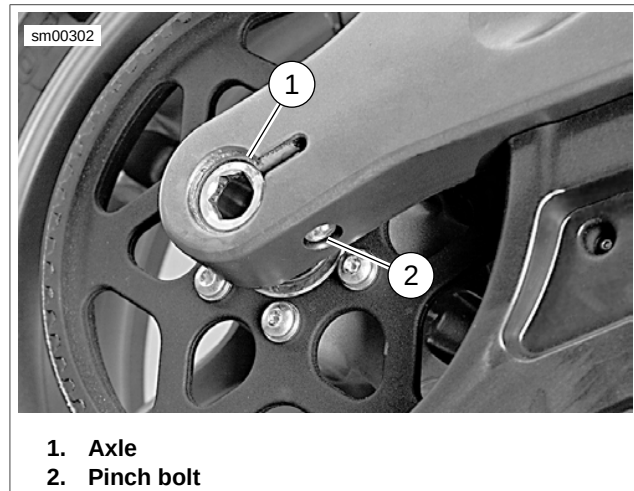
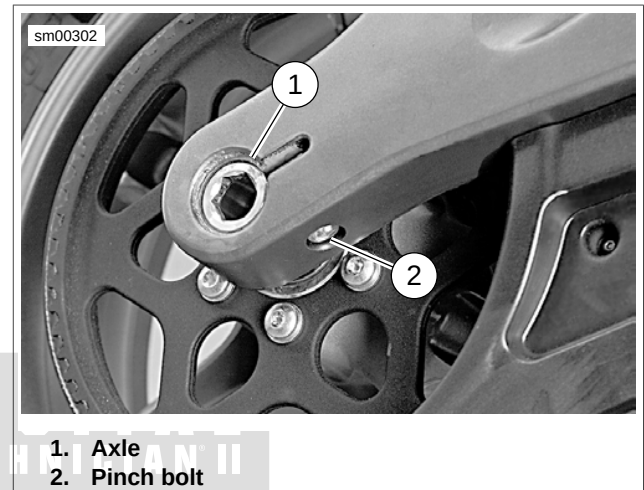

Figure 6-41. Rear Axle
Figure 6-43. Rear Axle
7. See Figure 6-41. Loosen rear axle pinch bolt (2).
8. Loosen rear axle (1) approximately 15 rotations to allow partial tension to be removed from rear drive system.
5. See Figure 6-43. Tighten rear axle (1) to 23-27 ft-lbs (31.2-36.6 Nm), back off two full turns and then retighten to 48-52 ft-lbs (65.1-70.5 Nm).
6. Tighten rear axle pinch fastener (2) to 40-45 ft-lbs (54-61 Nm).
7. See Figure 6-41. Install front sprocket cover. See 2.38 SPROCKET COVER.
1. See Figure 6-43. Loosen rear axle pinch bolt (2).
5. See Figure 6-43. Install and tighten rear axle (1) to 23-27 ft-lbs (31.2-36.6 Nm), back off two full turns and then retighten to 48-52 ft-lbs (65.1-70.5 Nm). See 2.5 REAR WHEEL.